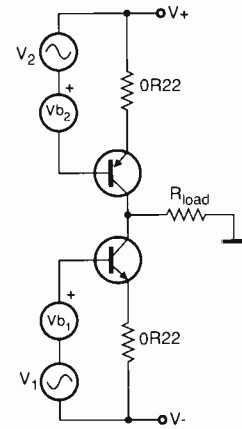

Fig. 3. The bipolar version of Fig. 2, as used in many low-voltage op amps and Walkman output amplifiers.
However... just as I was discarding the notion, it occurred to me that the structure in Fig. 2 looks very much like the bipolar common emitter (CE) stage in Fig. 3. This is widely used in low voltage op amps because the low saturation voltage allows a close approach to the rails⁵. The more usual emitter follower type of op amp output is usually called a CC or common-collector stage. It is highly probable that the widest application of these voltage-efficient CE configurations is in the headphone amplifiers of personal stereos.
Nonetheless, before reaching for the power fets, I felt the need for further reassurance that a CE output stage was workable. There are several low voltage op amps that use the CE output topology, so it seemed instructive to provoke one of these with some output capacitance and see what happens. A suitable candidate is the Analog Devices AD820, which has a BJT output stage looking like Fig. 3 and provides all you need for CE experimentation in one 8-pin package⁷.
While it is perhaps not obvious, this is the equivalent of Fig. 3. The need for an npn is
Fig. 9 shows the final stages of this conceptual hejira. 9a shows the simplified circuit of Fig. 3 with the power supplies V_+ , V_- included; they no doubt come from a mains transformer so we can float them at will, and it seems quite in order to pluck them from their present position and put them in the collectors of the output devices instead. All the other supplies shown are equally without ties forming an independent unit with the associated transistor and emitter resistor R_e . Thus they cannot effect device currents. Since there is only one ground reference in the circuit, it is also a legitimate gambit to put it wherever we like, which in this case is now the opposite end of the load R_L . (See reference 9 for another example of this manoeuvre). This gives us the unlikely looking but functionally equivalent circuit in Fig. 9b.